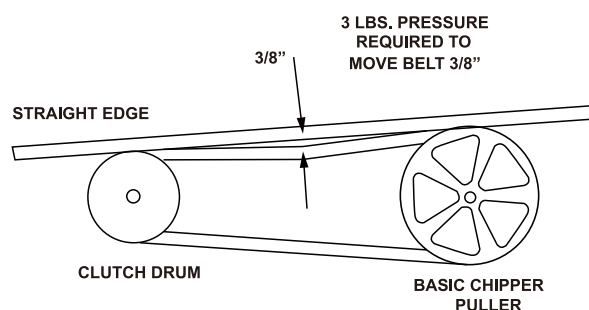

Fig. 1
The belt on your chipper should deflect  $\frac{3}{8}$ " under three pounds of pressure as shown in **fig. 1** below. If it doesn't, adjust per the following directions.
3. Tighten or loosen the nut until you have the correct tension as shown in **fig. 1**.